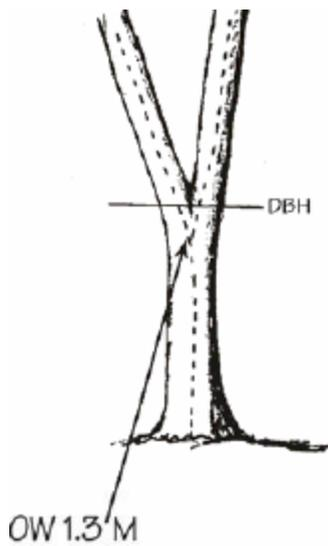

Fig. 2. Forking at DBH; measure directly below fork.
- On trees where forking starts at DBH, measure immediately below the origin of the fork. See Fig. 2.